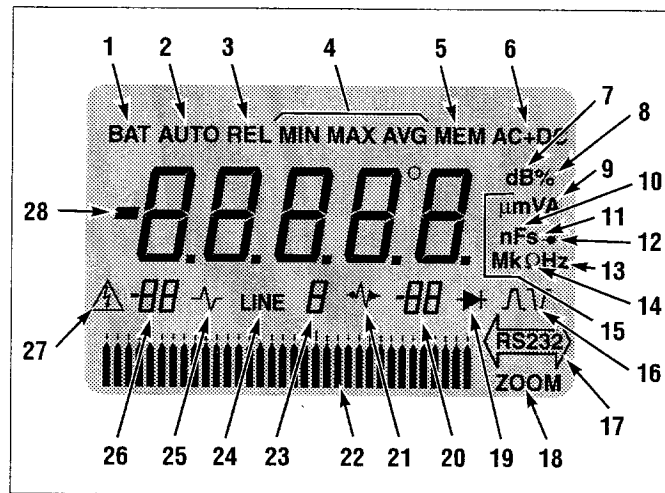

Fig. 12 LCD Display
1. **Display.** 50,000 count LCD display with 14 mm (0.55") high digits, automatic decimal point, minus sign and 34 segment bar graph. Indicates 5,000 counts in low resolution mode. Annunciators for all functions, units of measurement, blown fuse and for low battery. Overrange indicated by OL. Refer to Fig. 12 and the associated text for detailed description of the display.
2. **Hz Button** (5370 and 5390 only). Enables frequency functions when rotary **Function Switch** (7) is set to VAC, VDC, mVDC, mA DC and 10ADC. Short presses engage frequency measurement, % positive duty cycle, % negative duty cycle, positive pulse count, negative pulse count, positive pulse width measurement, negative pulse width measurement, and back to original rotary **Function Switch** (7) setting. A long press at any time returns the unit back to its original rotary **Function Switch** setting.
5. **HOLD Button.** Toggles the data hold feature on and off for all functions, and enables the AUTO MEM MODE. A short press freezes the current reading on the display with the MEM annunciator on. Another short press releases the display. A long press enables the AUTO MEM MODE only in the VDC, mVDC, and VAC positions of the rotary **Function Switch** (7).
6. **PK +/- Button.** Enables the fast peak hold (positive and negative) capability when the rotary **Function Switch** (7) is set to VDC, mVDC, mA DC, and 10ADC functions.
Figure 12 shows all the annunciators on the LCD display. Refer to this illustration while reviewing the following descriptions.